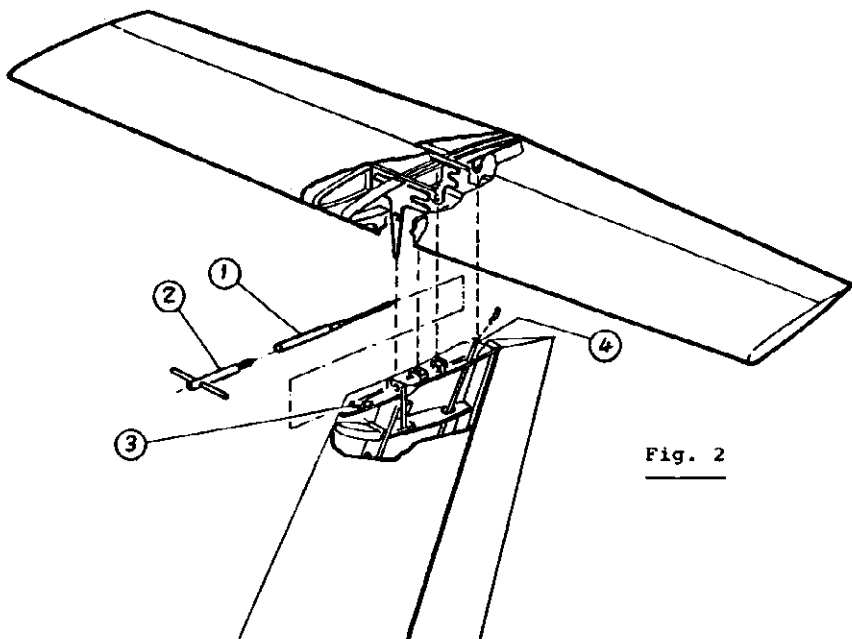

Fig. 2
1.3 Empennage Assembly (see Fig. 2)
- Pull out attachment bolt (1), using handle (2).